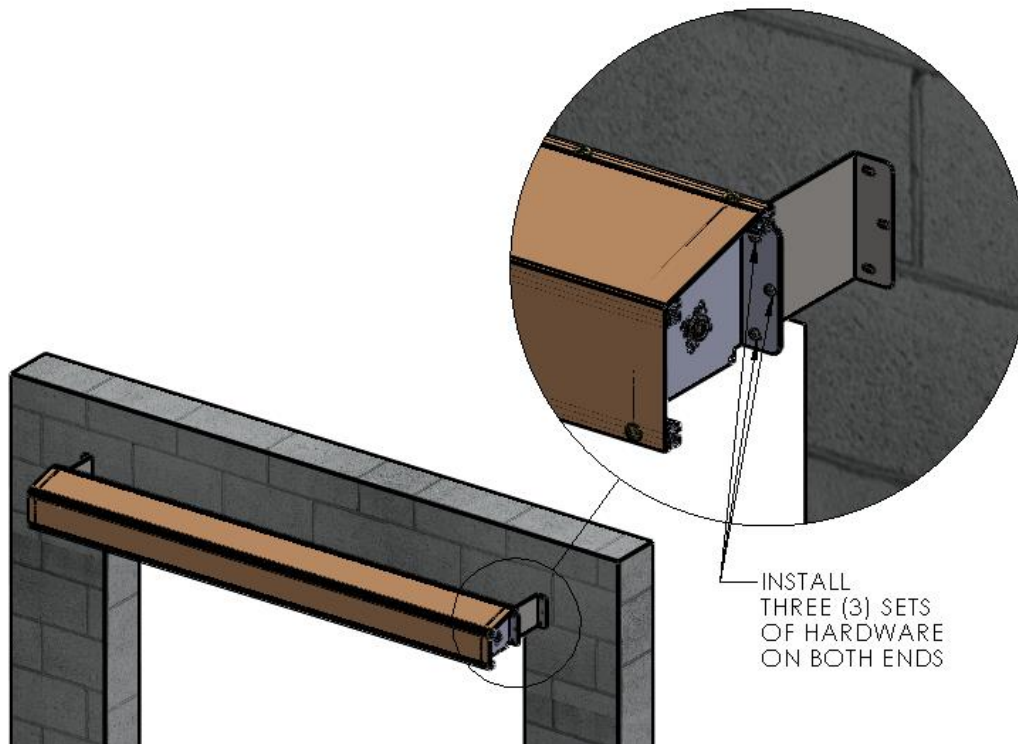

Figure 4 MOUNT HEADER ASSEMBLY TO OFFSET BRACKETS
1. Using two (2) people, and two ladders at minimum, raise the Roll Header Assembly into place on the offset brackets and secure with three (3) sets of ¼-20 screws and hex nuts per side. Do not fully tighten hardware until the Header Assembly Brackets are aligned with the offset brackets/edges. (Figure 4 MOUNT HEADER ASSEMBLY TO OFFSET BRACKETS)